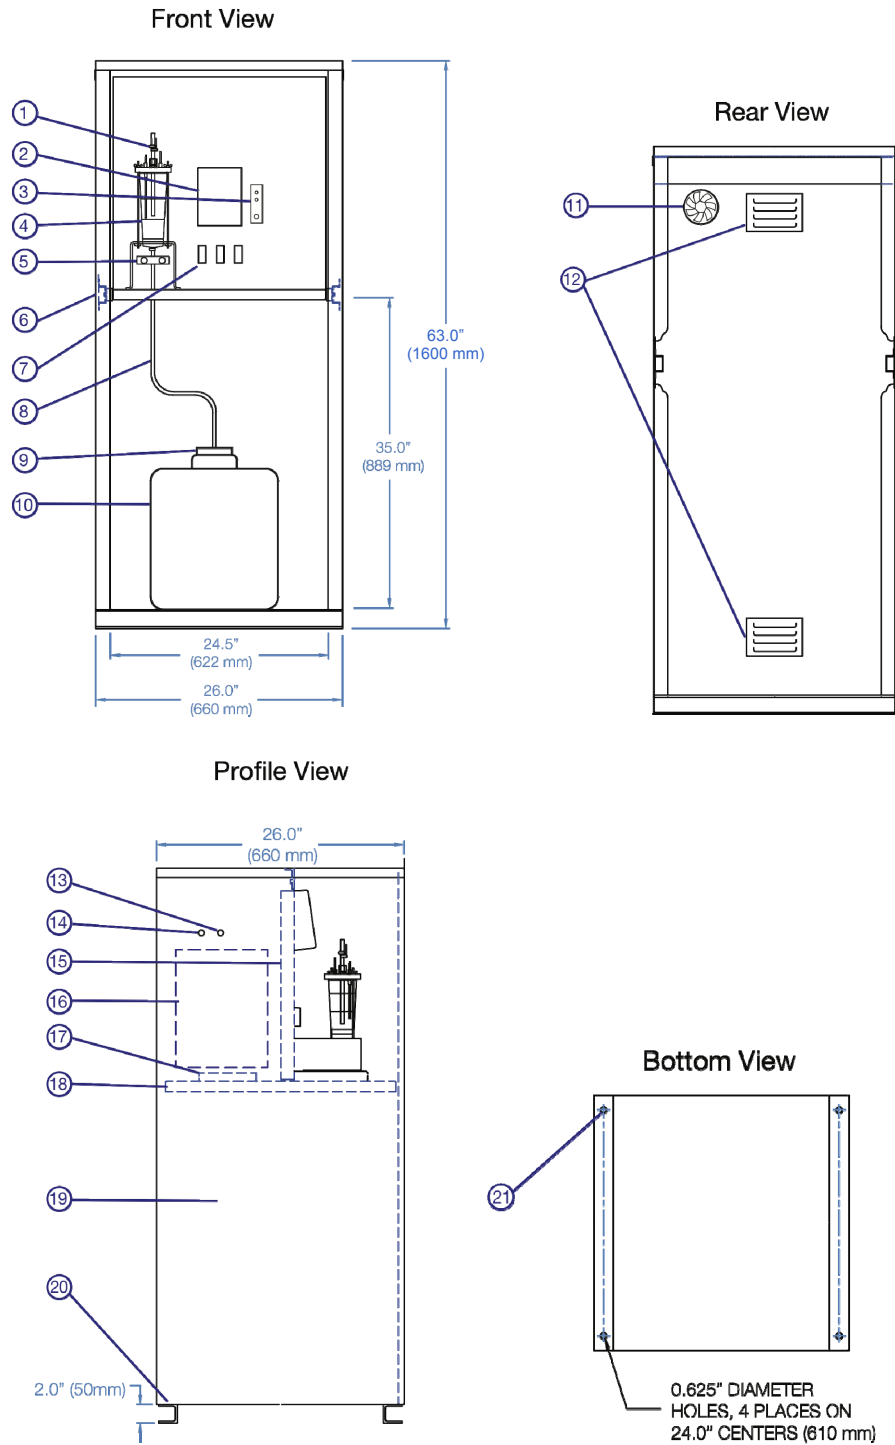

FIGURE 5-1. Diagrams of the BVS4300 basic unit
1. Connect the intake hose to the sampler's volume control tube (item 1 in FIGURE 5-1 or FIGURE 5-2).
1. Remove four retaining bolts (1/4–20) found across the top of the instrument panel (18 in FIGURE 5-1).